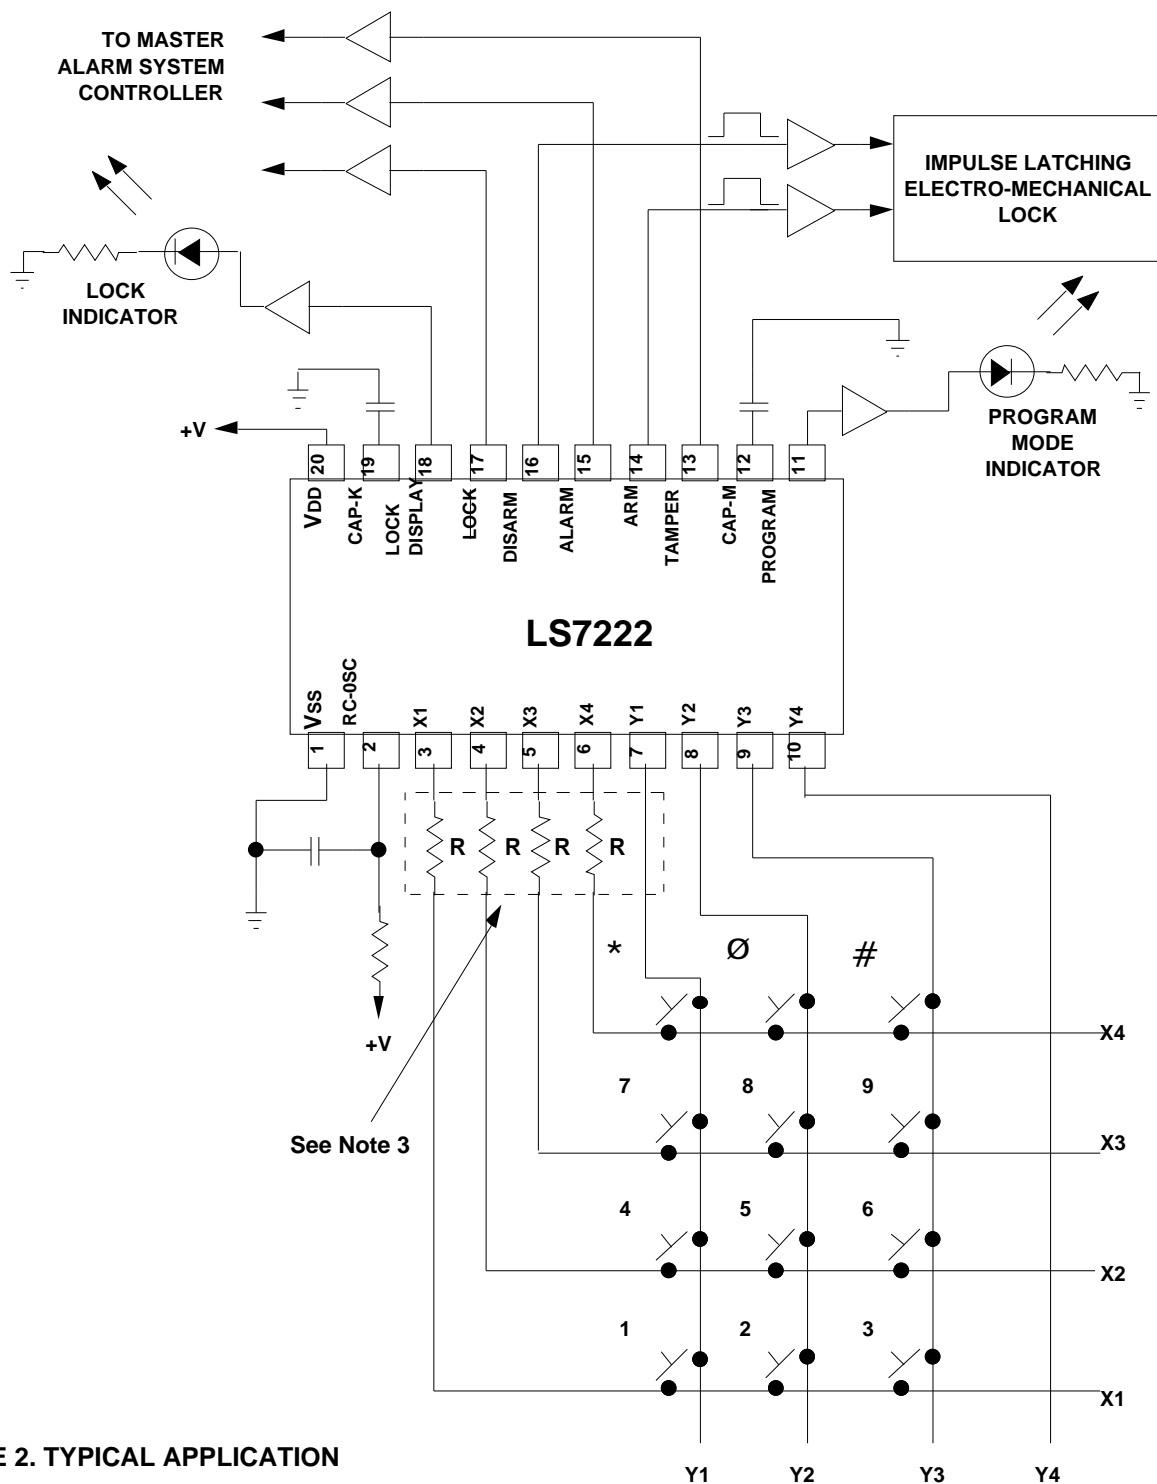

FIGURE 2. TYPICAL APPLICATION
**KEYPAD INTERFACE** - The four X inputs and four Y outputs are designed for keypad interface (see Fig. 2). Since the X inputs have internal pull-ups, the maximum matrix size of 4 x 4 does not have to be utilized. Because the Y outputs have open drains, more than one LS7222 may share the same keypad.